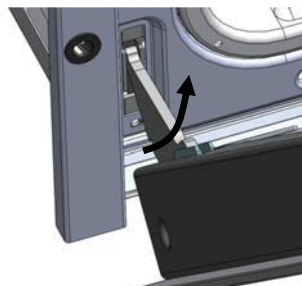

Fig. 4
- Gently close the door until left and right hinge levers A are hooked to part B of the door (Fig. 4);